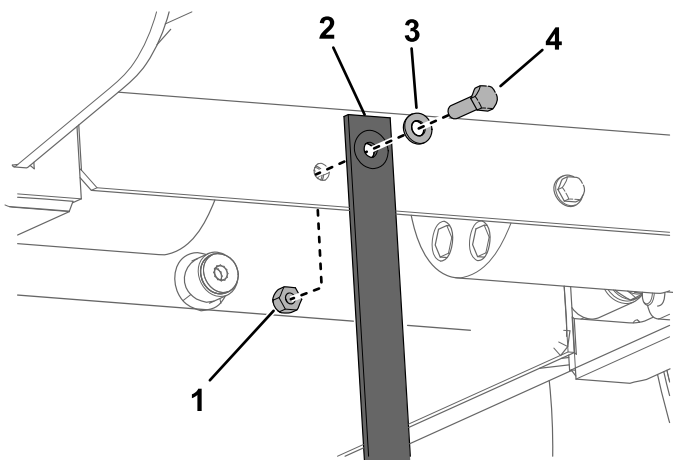

Figure 32
3. Under the platform, replace the static strap as shown in Figure 32.